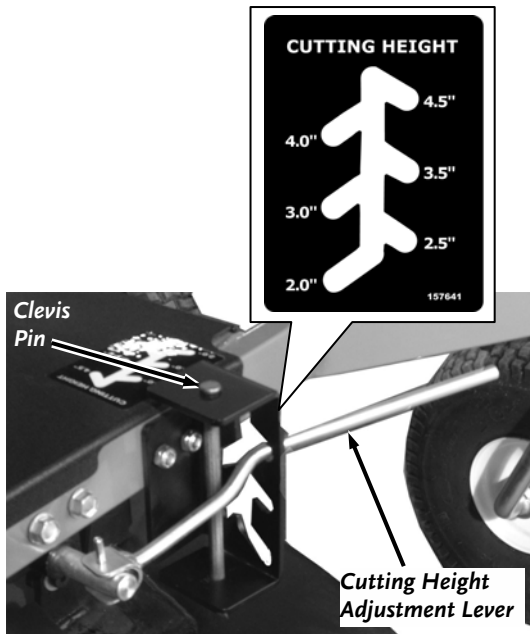

Figure 9
1. To change height settings, remove the Clevis Pin and re-position the Cutting Height Adjustment Lever. After adjusting to a new height, re-insert the Clevis (**Figure 9**).